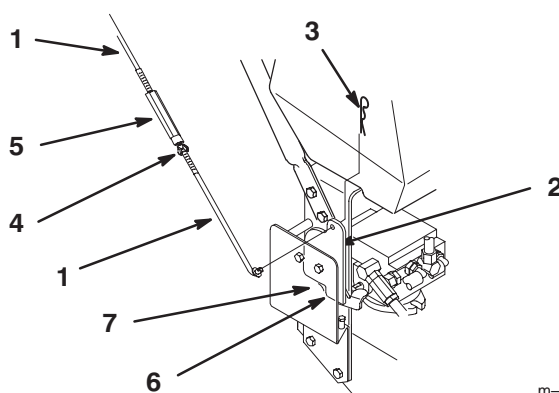

Figure 6
1. Slide rod into control bracket and secure with hairpin cotter (Fig. 6).
4. Push rod full forward until bearing is against control bracket stop. Loosen wing nut and thread turnbuckle in or out until rod aligns with holes in upper control bars (Fig. 6).
3. Loosen wing nut on right control rod and rotate turnbuckle in or out to change tracking. Secure turnbuckle in position with wing nut (Fig. 6).